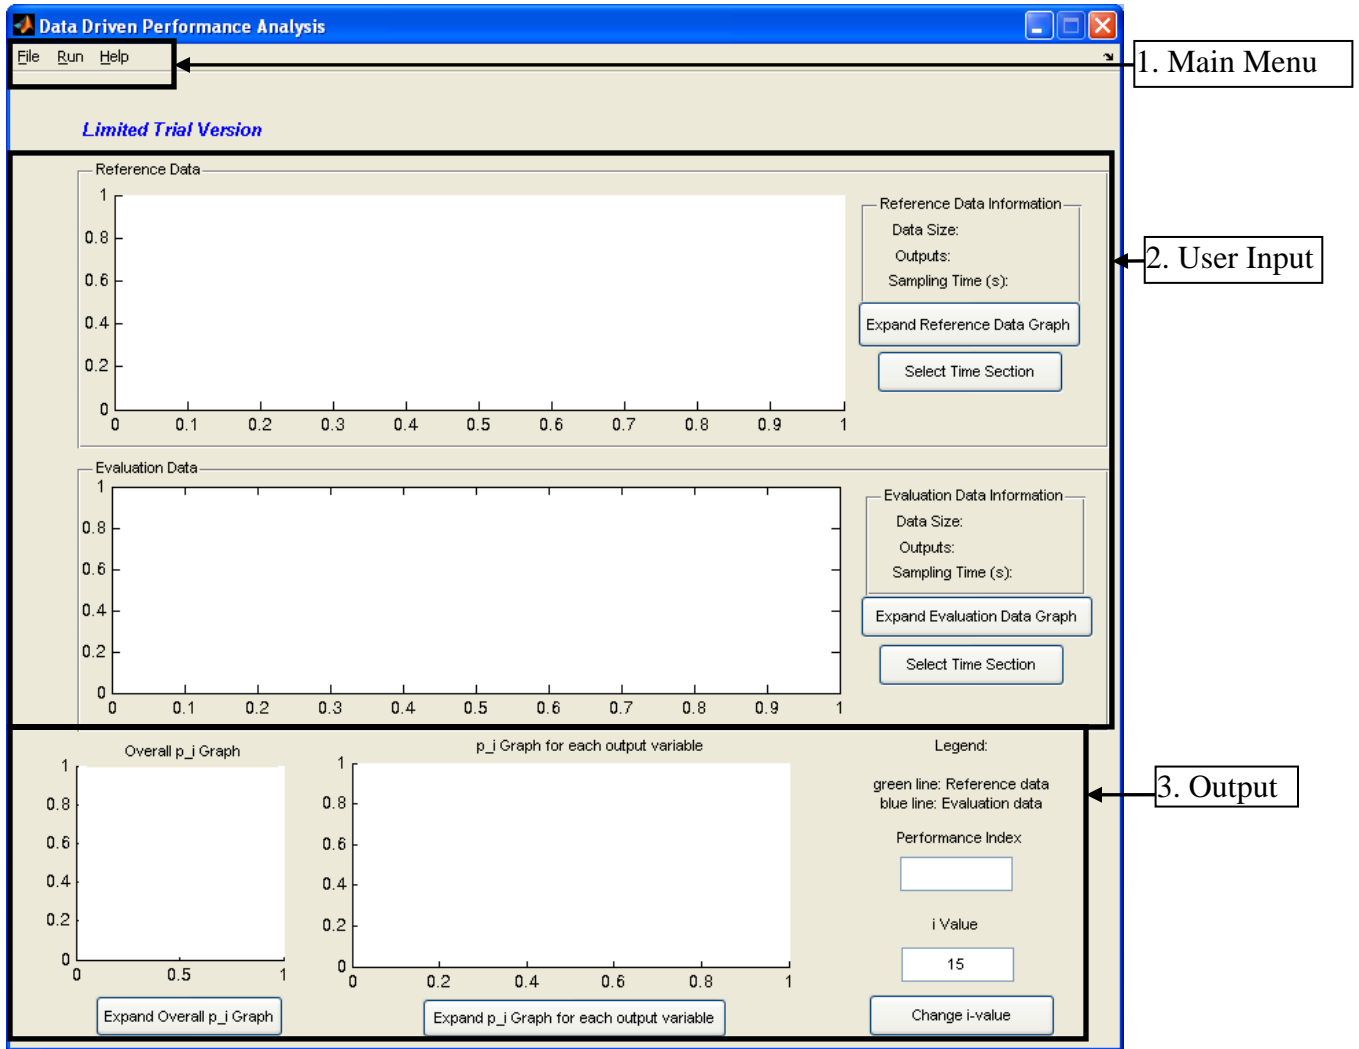
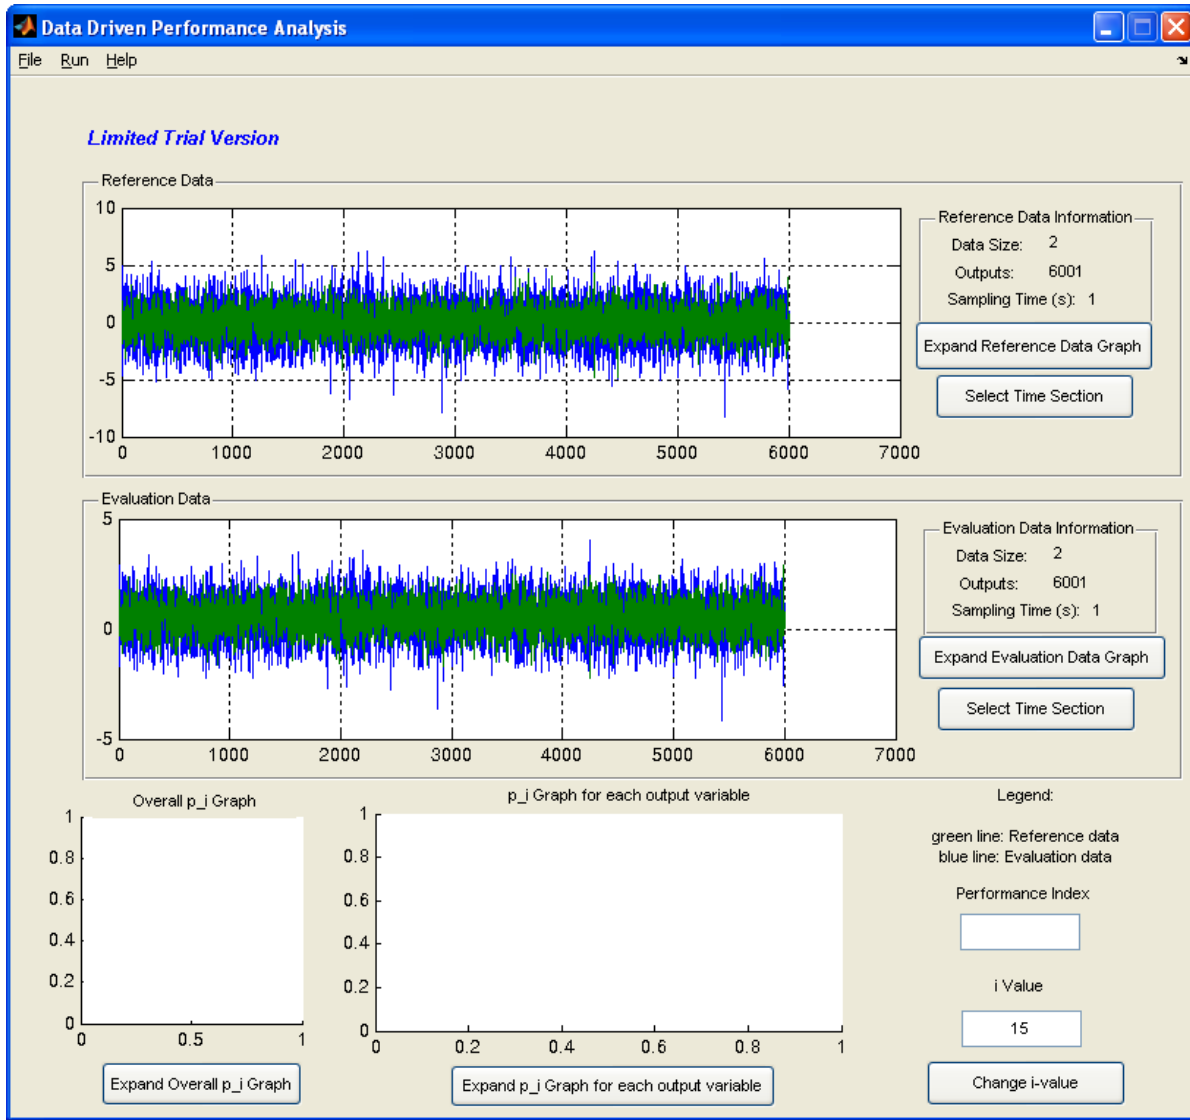

Figure 1: The Main GUI
Figure 2: Screen shot after loading the data
- 3) At the command prompt, type “>> **DataDriven**” to start the toolbox. The GUI shown in Figure 1 should appear. There are 3 main sections:
- 4) For the purpose of this quick start, we will be using the sample data provided in the zip file. Go to the “File” Menu located in the Main Menu area, which is denoted as 1 in Figure 1. Navigate to Load → Data→Reference Data to load the reference data. Alternatively, press Ctrl+D to perform the same operation. Select the file “DataFile.mat” and click “Open”. Any file that contains stores the reference data in the matrix called “Base\_Data” will work. Next, the evaluation data must be selected. Go to File →Load →Data→Evaluation Data. Alternatively, press Ctrl+E. Select the file “DataEval.mat” and click “Open”. Both data files contain the closed-loop, operating data for the process. Once the data has been loaded, the GUI should look similar to that shown in Figure 2.